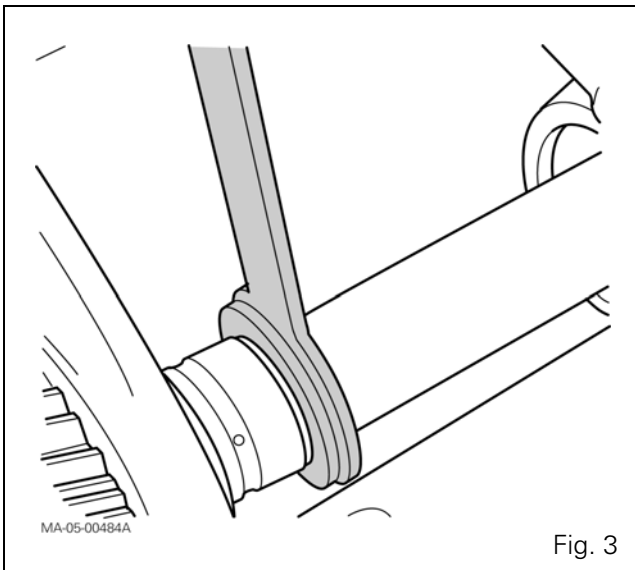
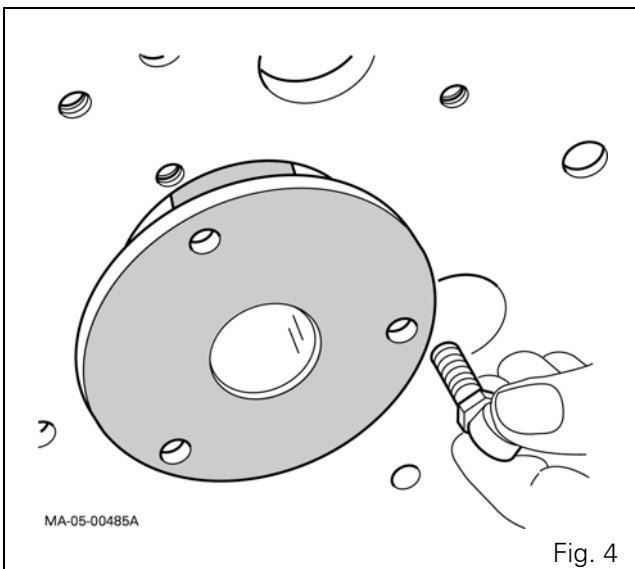
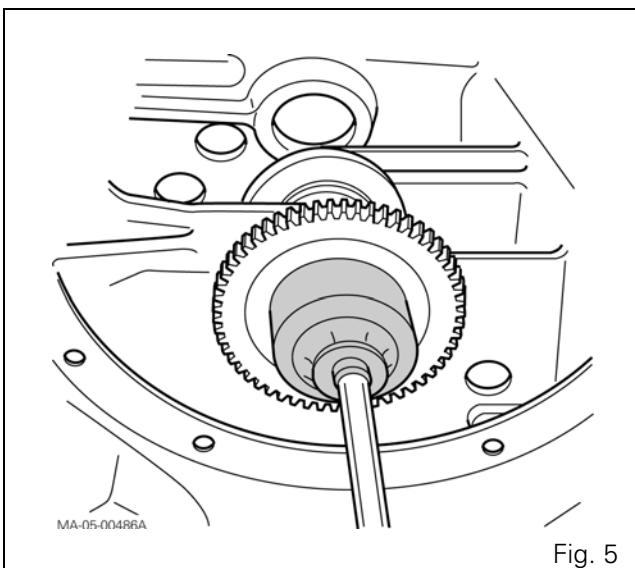

Fig. 3
Fig. 4
Fig. 5
10. Position locking tool 3378082M1 (Fig. 3) and the makeshift supporting sleeve for the shaft (69) (Fig. 4) (see § E).
11. Remove the lubrication pipe (71) and the spring (72).
12. Unlock the nut (68) and loosen it using socket 3378010M1 (Fig. 5 and § E).
13. Remove the input gear (67) with the cone (1).
14. Remove the washers (6) and the shim(s) (3).
15. Remove the tool and sleeve (Fig. 3 - Fig. 4).
17. Remove the 1st, 2nd gear assembly and the synchroniser (11) with the ring (8). Remove the cups (16) and (2).
27. Fit the locking tool 3378082M1 (see § E) and the makeshift supporting sleeve (Fig. 3 - Fig. 4).
28. If it has been removed, fit the cone (1) onto the gear (67), using a press and a suitable fixture.
29. Fit the washers (6) separated by a number of shims (3) sufficiently thick to obtain a temporary clearance of **0.10 to 0.15 mm** approx. in preparation for shimming with preload (see later).
30. Fit the gear (67) onto the shaft (69).
31. Fit the nut (68) using socket 3378010M1 and tighten to 130 - 170 Nm (Fig. 5).
32. Remove the tool and sleeve (Fig. 3 - Fig. 4).
39. Fit the locking tool and the supporting sleeve (Fig. 3 - Fig. 4).